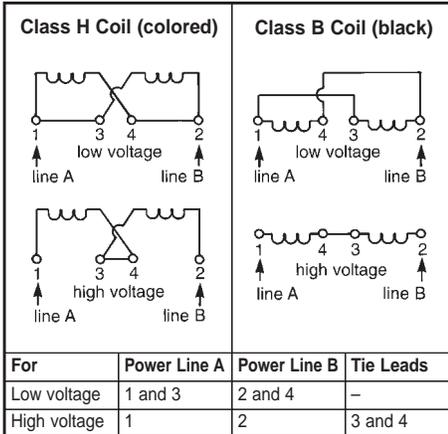

Figure 2
- Dual voltage coils may be factory preconnected for high voltage with wire nuts. Checking coil connection is suggested. Four lead style are marked on leads for connection per Figure 2. Two unmarked leads mean preconnection made for high voltage. Reconnect coil for appropriate voltage as shown in Figure 2. Bring out line leads.
- On single voltage coils, connect coil to any two leads on single or three-phase motors of the same voltage as the brake. Refer to brake nameplate and coil number for correct voltage and frequency. See Figure 2 for dual voltage coil connection and connect to any two leads of single or three-phase motor of the same voltage. The brake can also be wired to external switch contacts providing proper voltage other than that used to control the motor. Normally, the motor and brake contacts are interlocked.